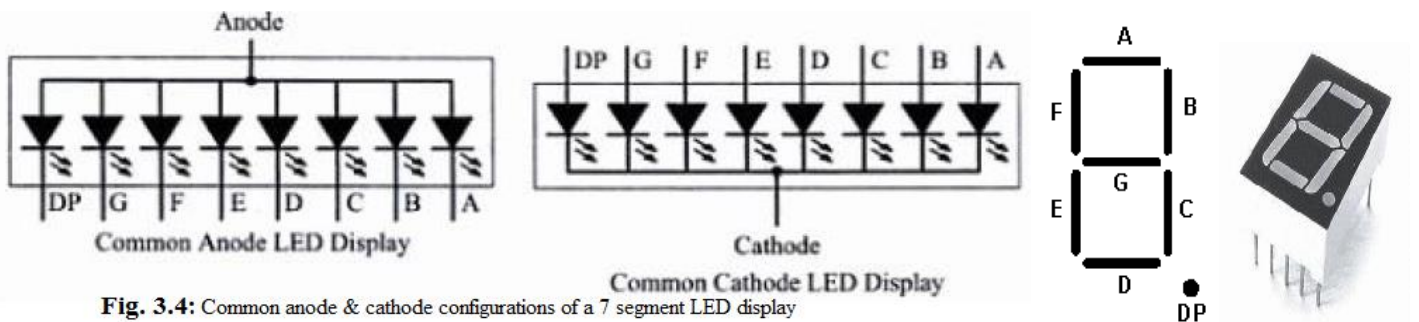

Fig. 3.4: Common anode & cathode configurations of a 7 segment LED display
- Figure 3.4 shows the common anode & cathode configurations of a 7 segment LED.